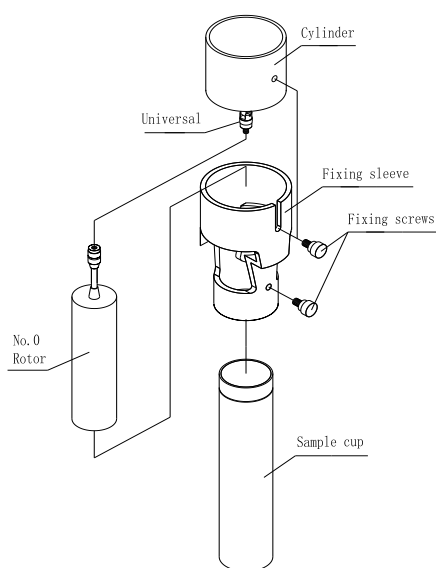
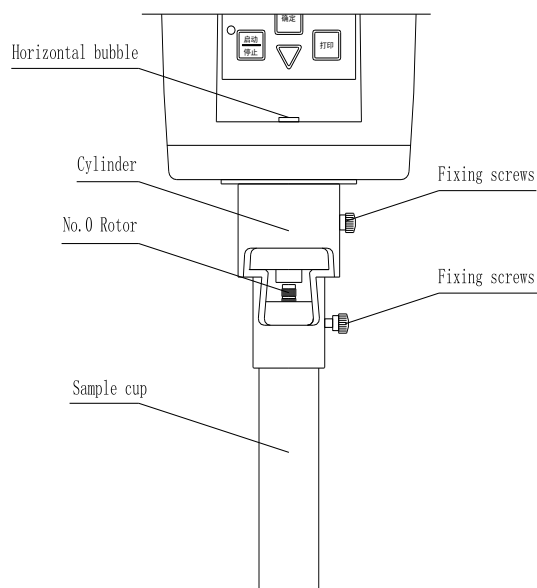

Fig. 5
Fig. 6
(2) Install rotor #0 as per Fig. 5, firstly mount rotor #0 onto the rotor connecting screw (universal joint) clockwise.
(3) Attach the fixing sleeve to the cylinder under the instrument from the bottom up (avoid touching rotor #0), and fix the sleeve with fixing screws.
(4) Transfer 20mL of the tested liquid into the testing tube.
(5) Insert the sample cup with liquid from bottom to the topmost of the fixing sleeve, and then fasten by the fixing screws, the fixing screw must be tipped to the triangular chute on the upper end of the outer sample cup. The completed installation of rotor #0 is shown as Fig. 6, and testing can be started when the liquid temperature is controlled and the instrument is leveled.
(6) Rotor #0 cannot be running with no load when no liquid is filled, and the rotor protective frame is unnecessary if rotor #0 is used.